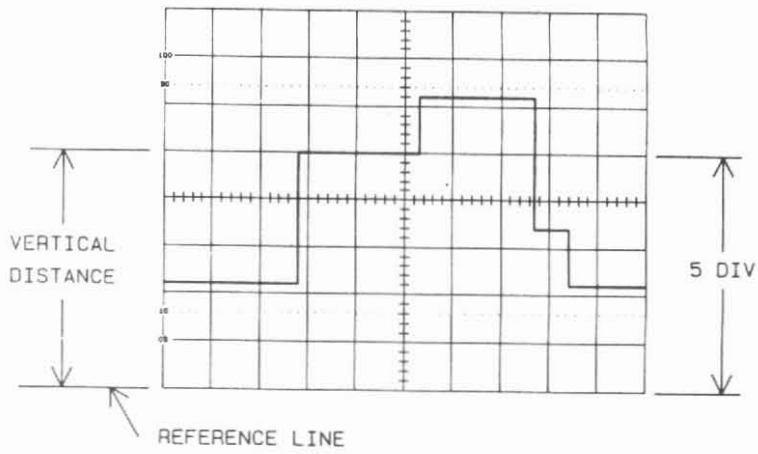

Fig. 2-17. INSTANTANEOUS VOLTAGE MEASUREMENTS
(2) Instantaneous Voltage Measurement
- Adjust the TIME/DIV switch [22] or [23] so as to become a complete waveform and set the VOLTS/DIV switch to produce 4 to 6 divisions (See Fig. 2-17).
- Set the AC-DC,GND switch (11) or (12) to GND.